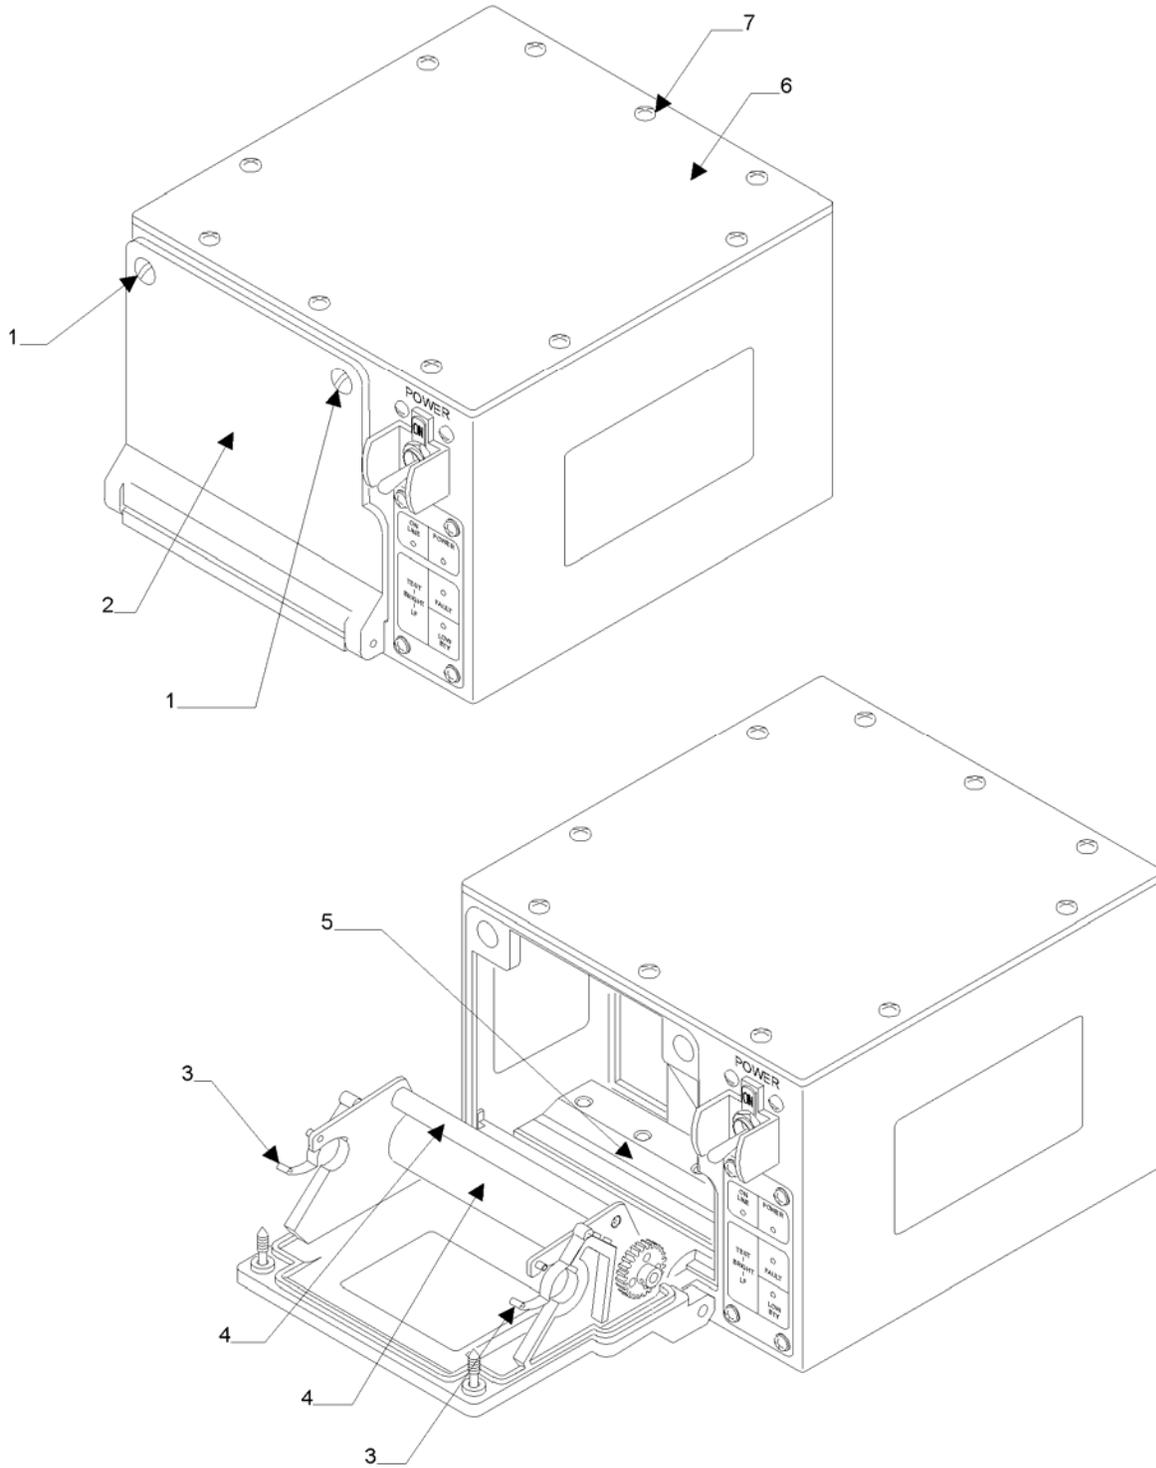

Figure 2-2. Printer Inspection
Visually inspect the equipment supplied to ensure that all assemblies have arrived (reference Chapter 1, Table 1-2) and are free of damage incurred during shipping. This inspection will reveal only obvious damage or shipping errors, and is not intended as a performance verification (Chapter 6). As part of the inspection, and in most repair procedures, it is necessary to open the printer door (2, Figure 2-2) and remove cover (7). Open printer door, remove printer cover and perform the inspection as described in the following steps: